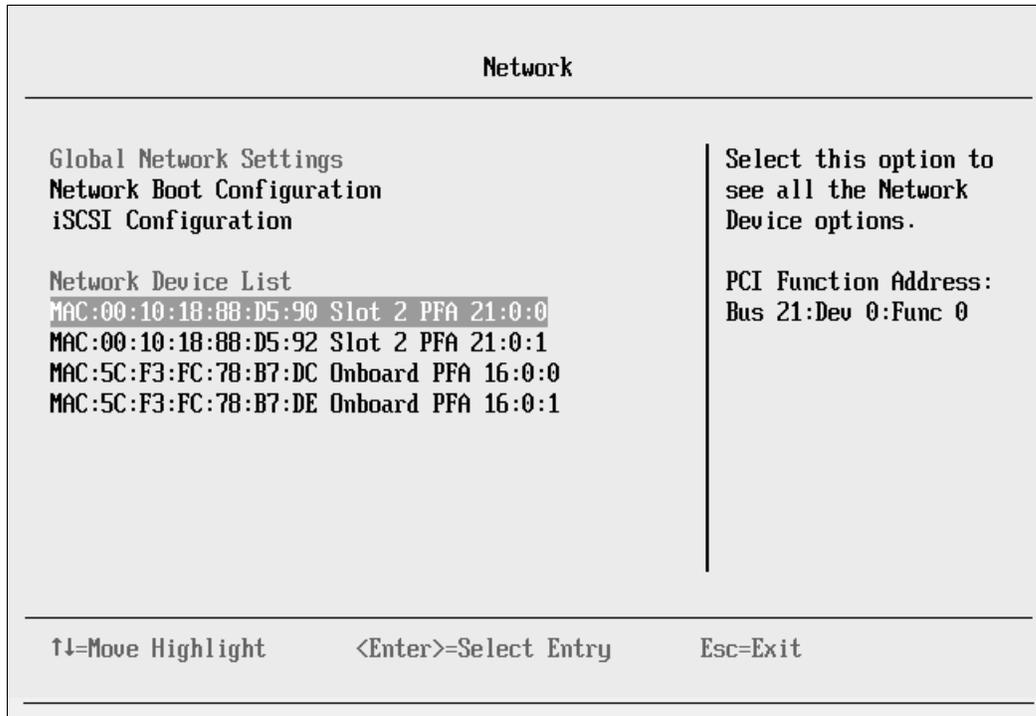

Figure 9-3 Network panel
5. In the Network panel (Figure 9-3), under Network Device List, select the first 10 Gbps network port.